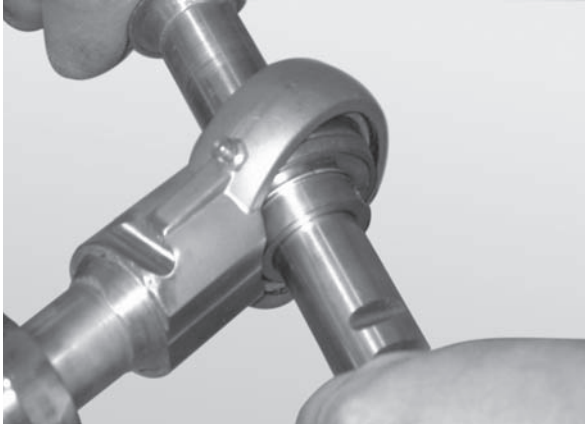

Figure 64
2. Insert the rod end of a second bearing shaft through the bearing (**Figure 64**).